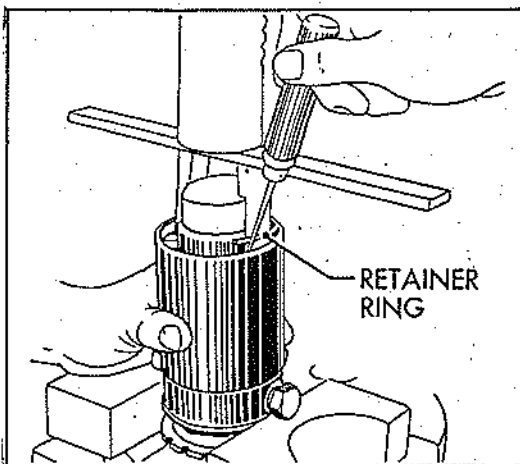

Figure 84
(11) Insert the retainer ring in the end of the unit as shown in Fig. 84. Be careful not to damage internal parts.